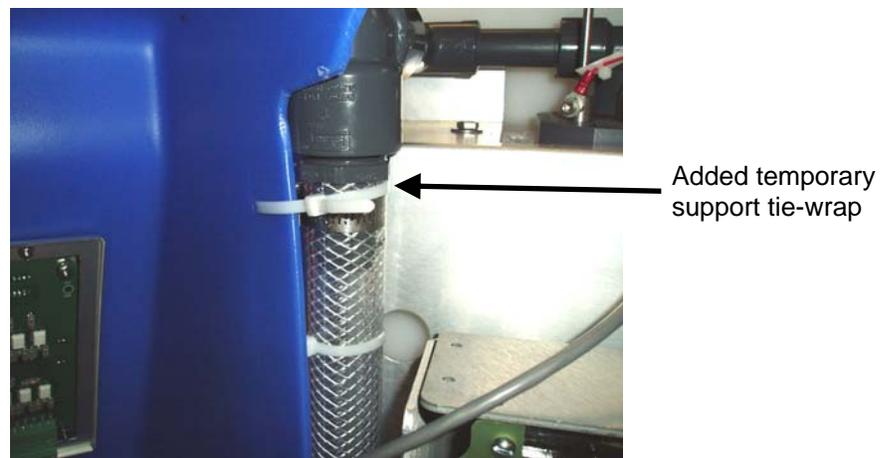

Figure 2
8. Using a single tie-wrap (P/N 368189-03 or equivalent) secure the shroud in place (see Figure 2).